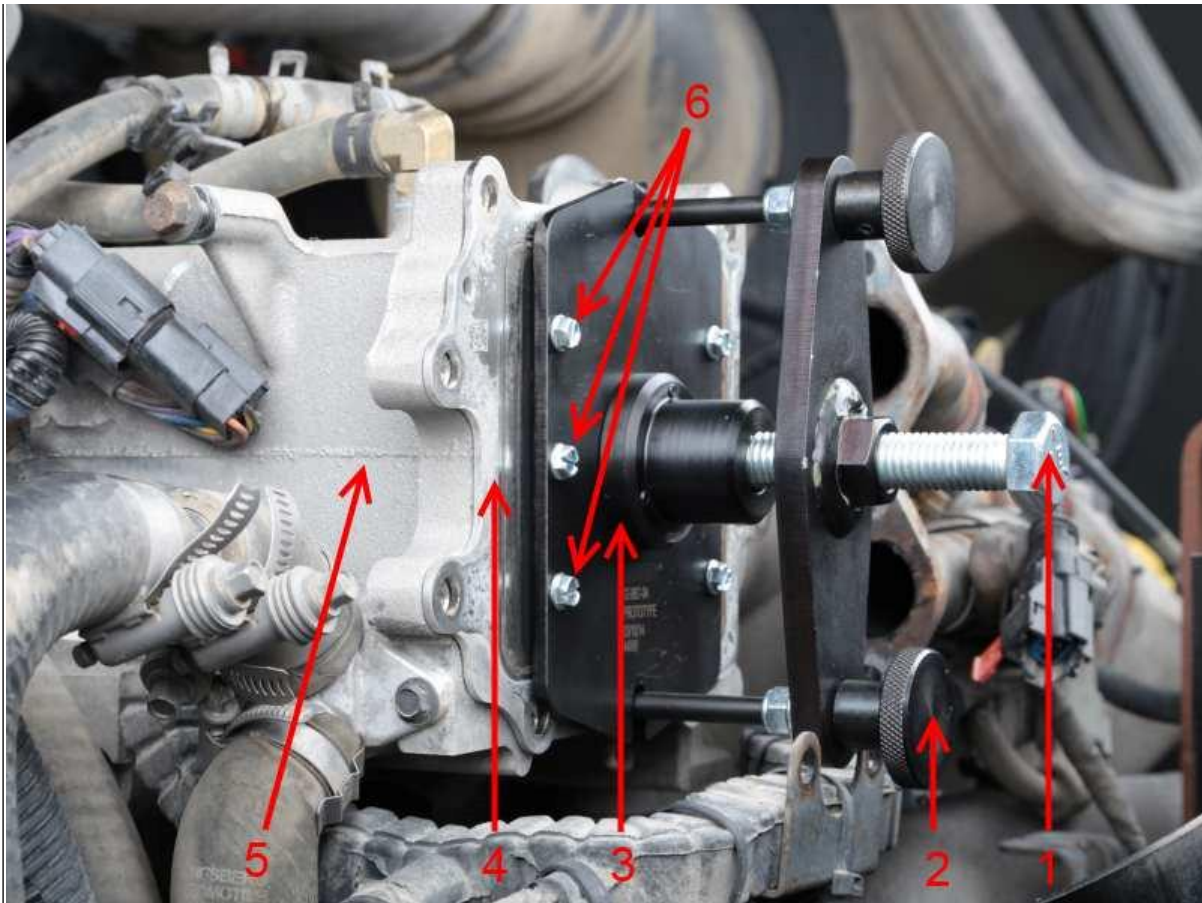

Figure 4: Low Temp EGR Core Extractor
4. Back out the bolt (**Figure 4**, Item 1) until the core pulls loose (typically 3/4" from the housing).